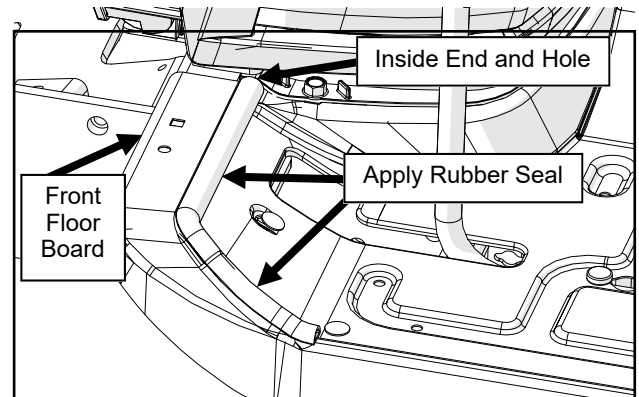

Fig. 3.1 (Apply Rubber to Floor Board)
- 3.1** Apply arch PSA rubber to the left floor board. The rubber should be about 2" from the front of the floor board on the angled edge, not the flat surface with the mounting holes. Ensure that the inside end of the rubber goes all the way to the edge of the floor board, stopping at the drainage hole. Continue to follow the angled surface around the side as shown. See Figure 3.1.